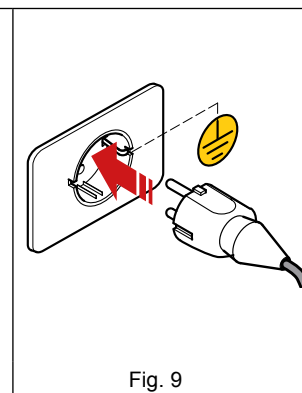

Fig. 9
- Put the grinder-doser back into the upright position and then connect the cable to the power socket provided (Fig. 9).